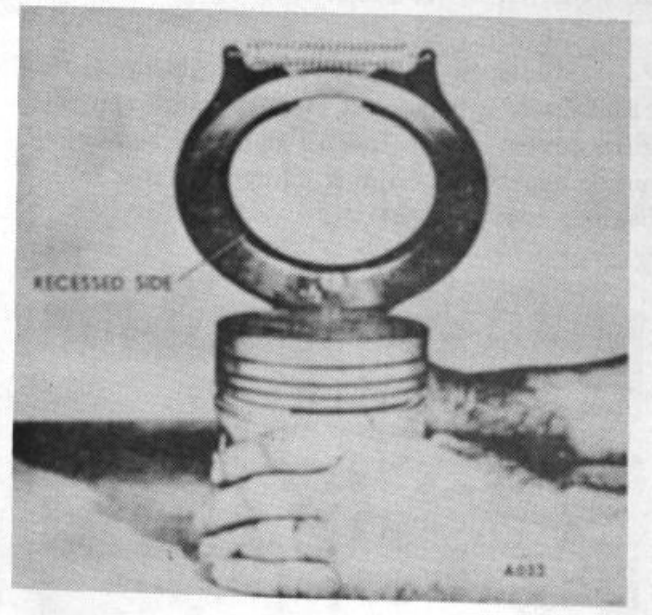
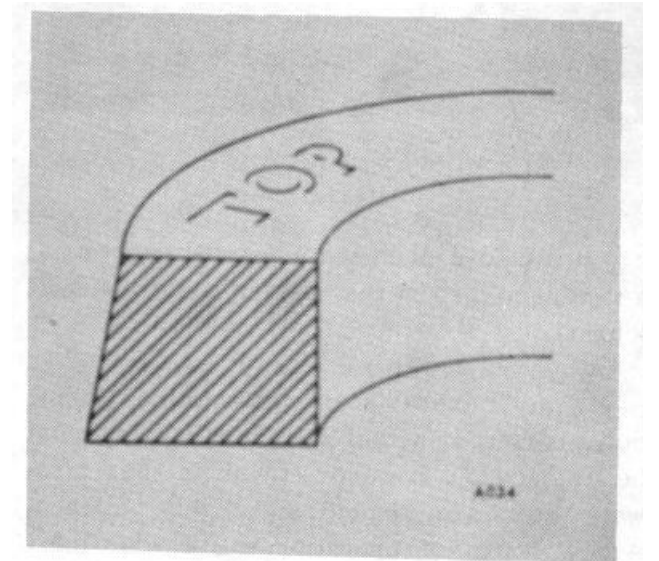

Figure 32.
Figure 33.
3. Hold the ring tool with recess side up and place the ring in the groove with the bottom side up. (Fig. 32) Start with the lowest ring first. Some piston rings are taper-faced. These are clearly marked "TOP" on the side to be up when assembled on piston. (Fig. 33)